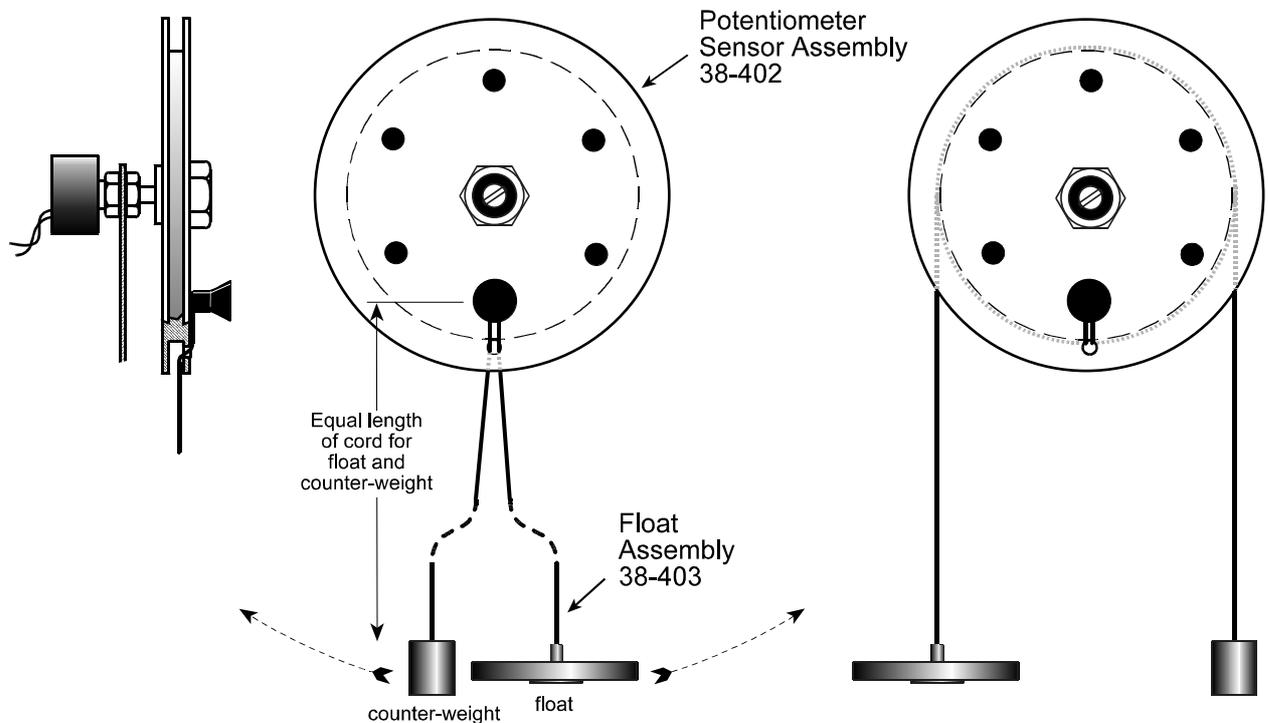

Figure 1-4: Threading the Float Level Sensor Cord
- 1 Fold the cord in half and secure the loop around the large plastic rivet see Figure 1-4. Wrap the cord twice around the pulley and check that the cord is not wound over itself and that the pulley turns freely.